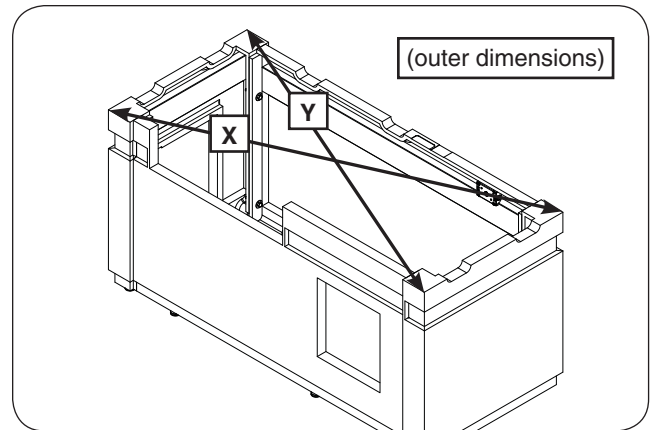

Fig. 8-3 Square unit (then tighten bolts)
- a. Measure the X outer dimension, see Fig. 8-3. It should be approximately 79 $\frac{3}{4}$ ".
- b. Measure the Y outer dimension, see Fig. 8-3. Carefully adjust the side walls as needed to ensure the X & Y dimensions are equal. (The final dimension may slightly vary from that mentioned in step a.)